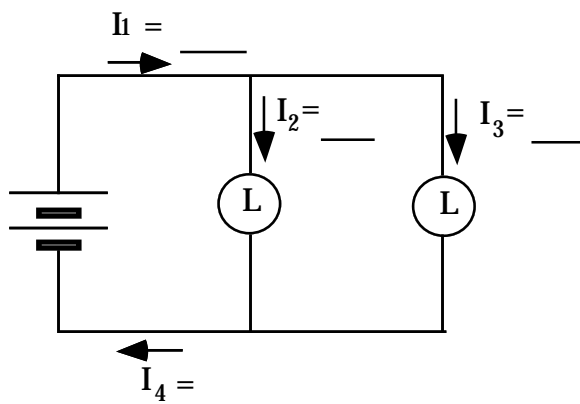

Figure 6.9a
Set up the circuit as shown in Figure 6.9a using two cells in the battery case.
1. Insert the ammeter at each of the locations indicated by a current symbol (I) in Figure 6.9a. Record the readings provided by this instrument in the corresponding spaces on the figure — labeled **I₁**, **I₂**, **I₃**, and **I₄**. (**I₁** and **I₄** represent the current in the ‘trunk’ of the circuit, and **I₂** and **I₃** represent the current in the ‘branches’.